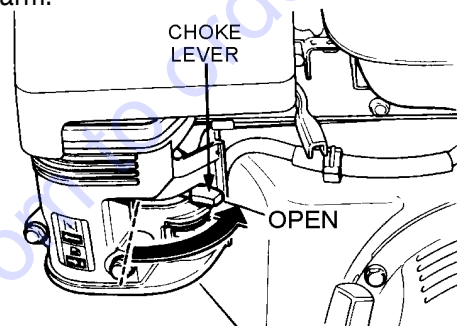

Figure 15. Engine Choke Lever (Open)
4. Place the choke lever (Figure 15) in the "OPEN" position if starting a warm engine or the temperature is warm.